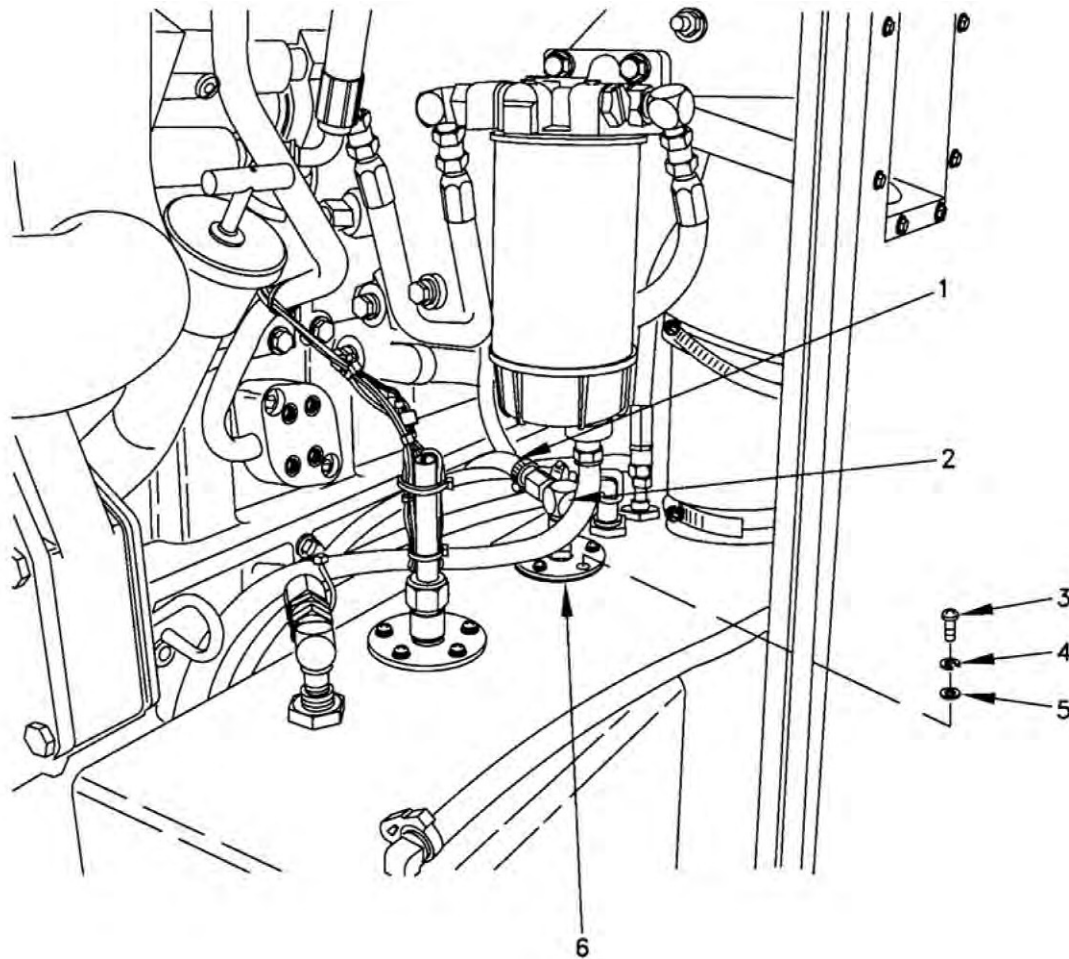

Figure 1. Fuel Pickup Tube Assembly.
3. Disconnect hose (Figure 1, Item 1) from fuel pickup tube (Figure 1, Item 2).
4. Remove five screws (Figure 1, Item 3), lock washers (Figure 1, Item 4), washers (Figure 1, Item 5), fuel pickup tube (Figure 1, Item 2), and gasket (Figure 1, Item 6).
1. Clean area on fuel tank where gasket (Figure 1, Item 6) will be installed.
2. Apply sealing compound to both sides of gasket (Figure 1, Item 6), and install gasket, fuel pickup tube (Figure 1, Item 2), five washers (Figure 1, Item 5), lock washers (Figure 1, Item 4), and screws (Figure 1, Item 3).
3. Connect hose (Figure 1, Item 1) to fuel pickup tube (Figure 1, Item 2).